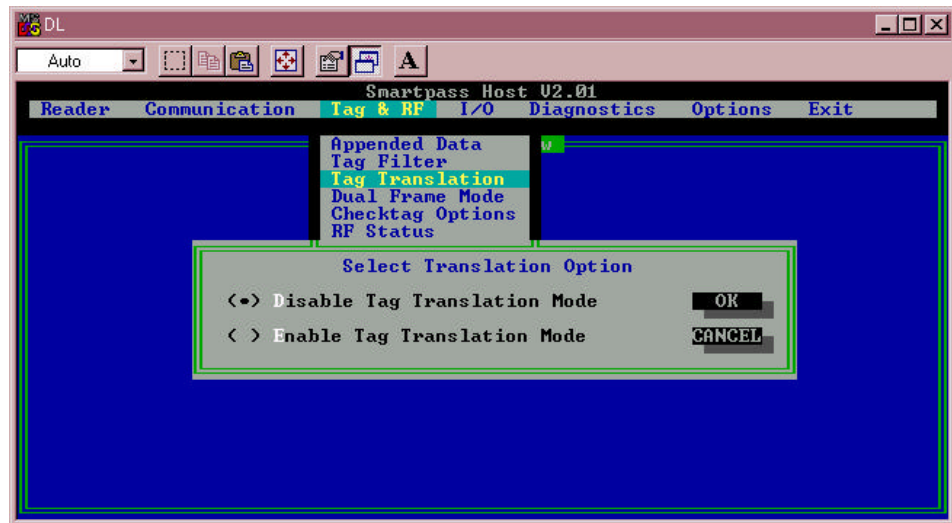

Figure 4-30 Select Translation Option Dialog Box
1. Select the **Tag & RF** drop-down menu and click the **Tag Translation** option. Figure 4-30 illustrates the options for translating tag data.